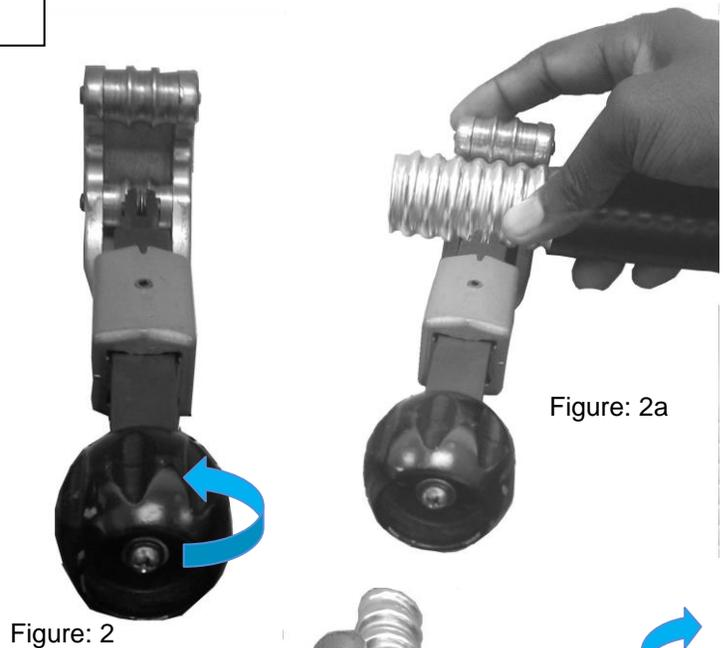

Figure: 2
- 3) Insert the cable between roller 1 and 2 as shown in figure: 2.